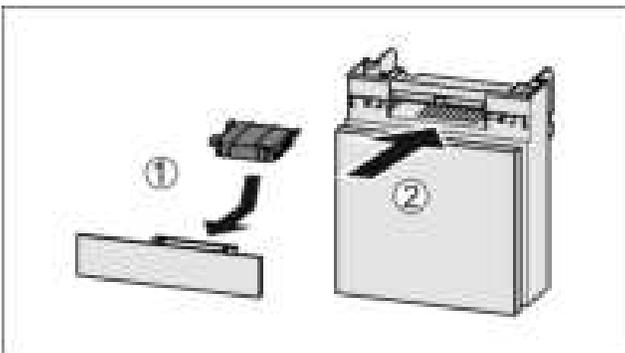

Fig. 160
- ▶ Insert the carbon filter as shown in the diagram Fig. 160 (1).
- ▶ Push the compartment in Fig. 160 (2).